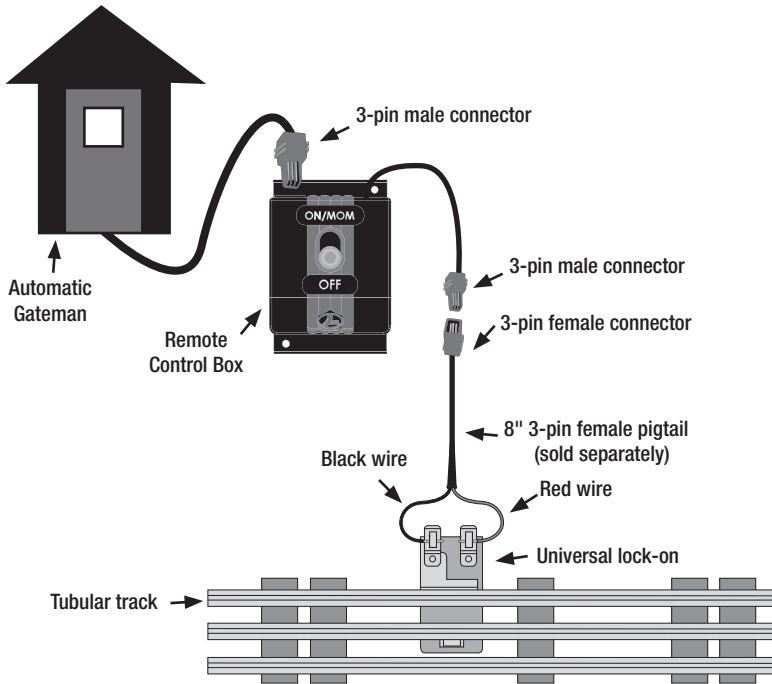

Figure 6. Connecting your gateman to tubular track.
**Y**ou can also connect your automatic gateman to tubular track using the remote control box and the 8" 3-pin female pigtail (6-82038 - SOLD SEPARATELY). Plug in the 3-pin male connector of the gateman into the 3-pin female slot on the back of the remote control box. Next plug in the 3-pin male connector from the box into the 3-pin female pigtail. Then attach the red wire to the inside rail position of the universal lock-on (6-24213) and the black wire to the outside rail position. See figure 6.